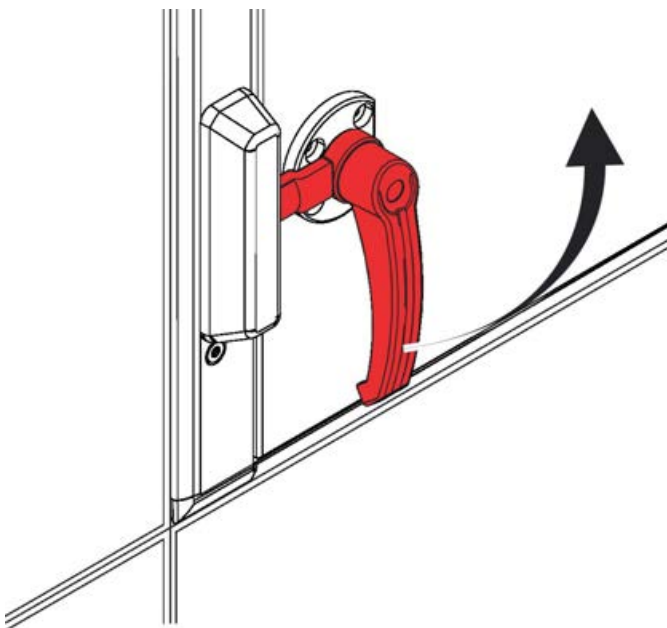

Fig. 14: Opening a door lock
- ▶ Turn the door handle anti-clockwise by 90° (Fig. 14).